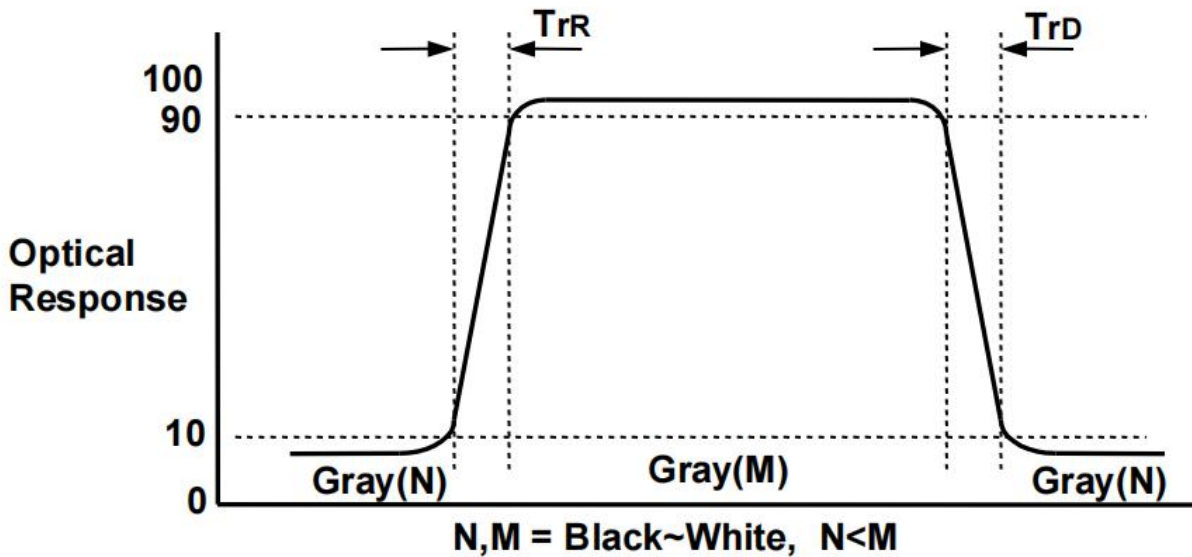

FIG. 4 Response Time
6. Viewing angle is the angle at which the contrast ratio is greater than 10. The angles are determined for the horizontal or x axis and the vertical or y axis with respect to the z axis which is normal to the LCD module surface. For more information, see the FIG. 4.